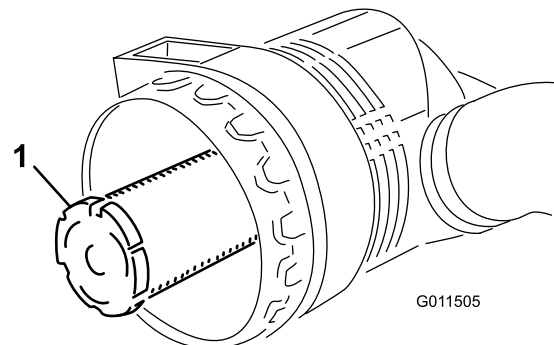

Figure 55
**Important:** Never attempt to clean the safety filter (Figure 55). Replace the safety filter with a new one after every 3 primary filter services.